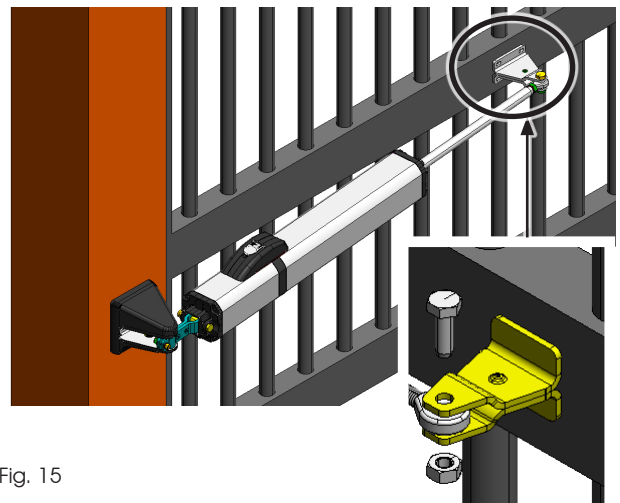

Fig. 15
15. Attach the operator to the front bracket (Fig. 15).